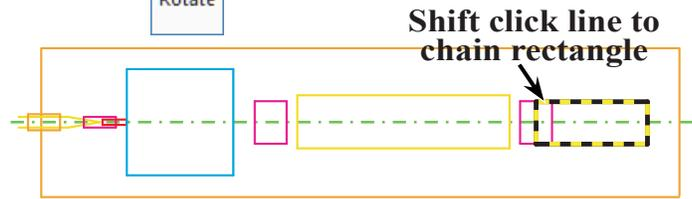

Fig. 35
Step 2. **Shift click** a line of switch rectangle to chain select rectangle and click End Selection (ENTER), **Fig. 35**.